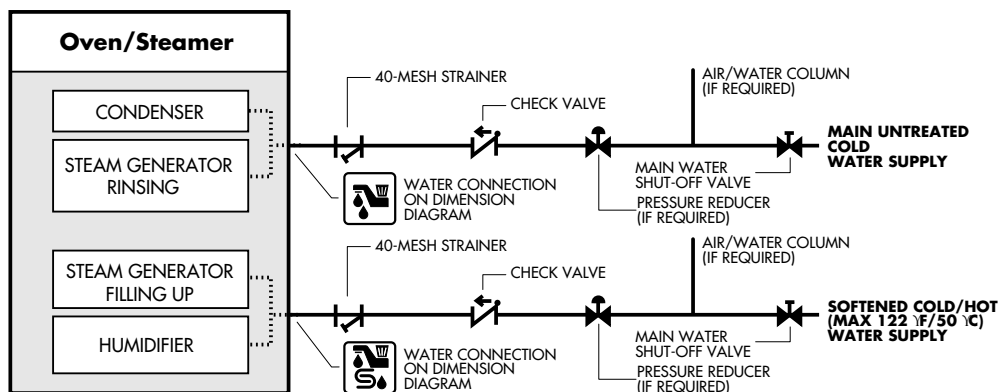

Figure 2-6. Water Supply Lines without a water treatment system
- 5- Refer to the recommended plumbing layouts in Figures 2-6 and 2-7, and install the water supply lines and fittings in accordance with all local and national codes. While constructing and installing the water supply lines, pay particular attention to the following requirements and recommendations.
- b. When installing a water supply system without a water treatment system, we recommends the plumbing layout illustrated in Figure 2-6.
- b. If the Oven/Steamer is installed without a water treatment system, refer to Figure 2-6. Note that the tee is installed after the check valve and strainer to reduce the number of fittings and amount of piping required.